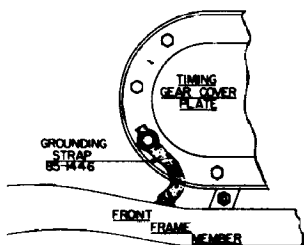

Fig. 1
- 1 - Install a heavy battery ground strap bond 85-1446, connecting together the timing gear cover plate and frame member (Fig. 1).